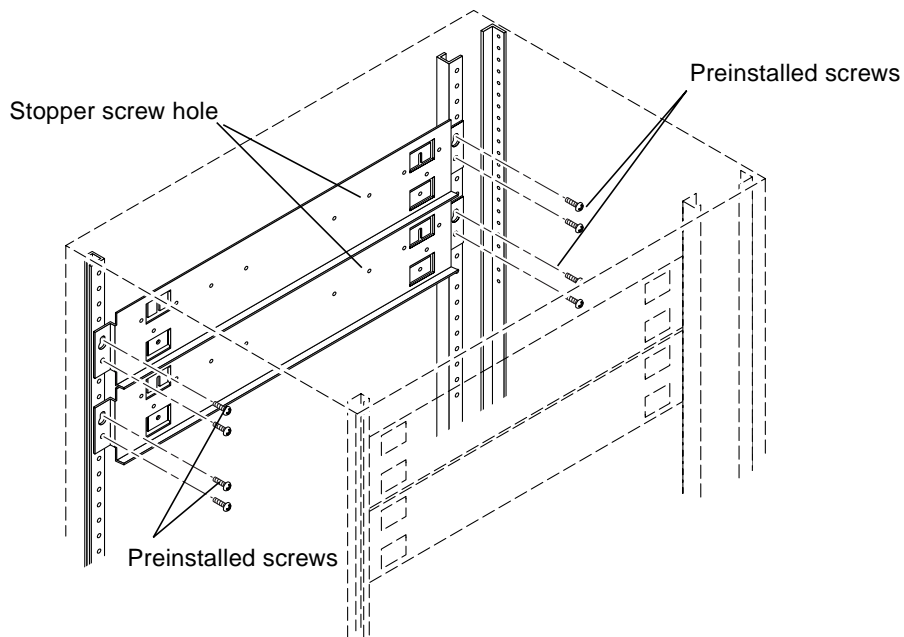

FIGURE 4-3 Attaching the Mounting Rails for a 16-port Switch
1. Before you install the rails into the cabinet, loosely start two stopper screws into each rail (see FIGURE 4-3).
2. Working from the rear of the cabinet, loosely start two screws into the cabinet for each mounting rail, one at each end (see FIGURE 4-3).